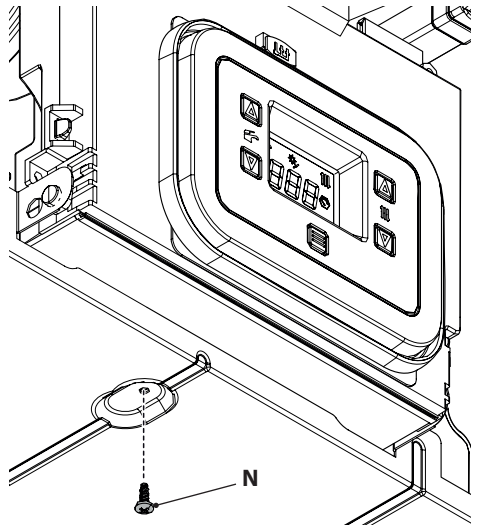

Figure 5.22
- Unscrew the screw **N** (Figure 5.22).